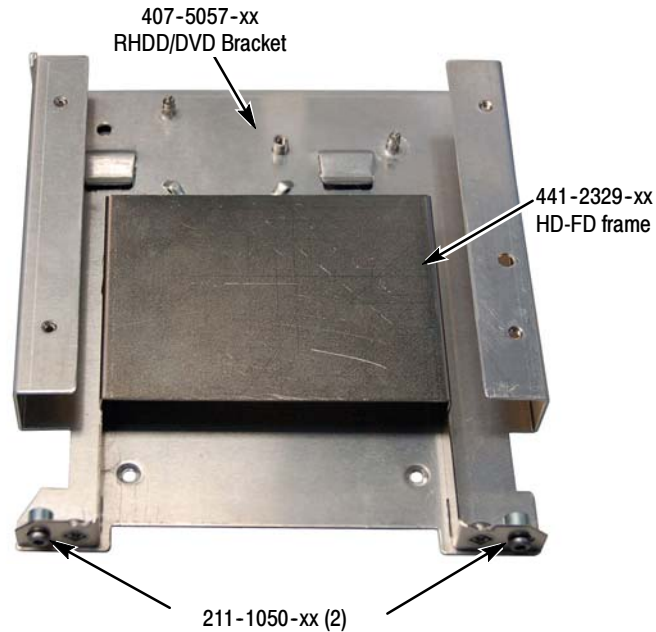

Figure 23: Installing HD-FD frame on bracket
1. Slide the tabs on the FD-HD frame (441-2329-xx) into the slots on the RHDD/DVD bracket. Attach the pieces together with two screws (211-1050-xx) using a T15 driver. See Figure 23.